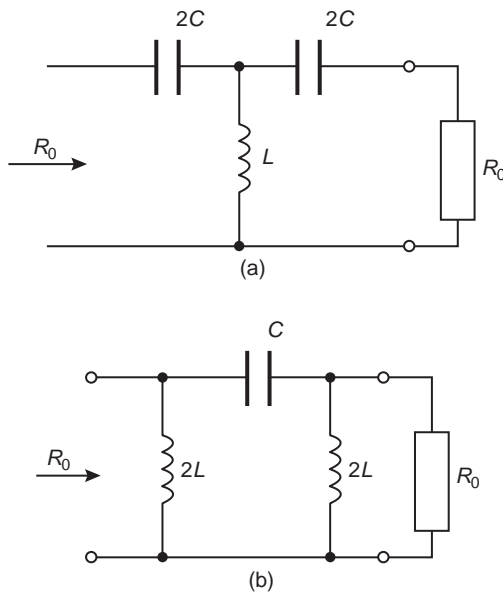
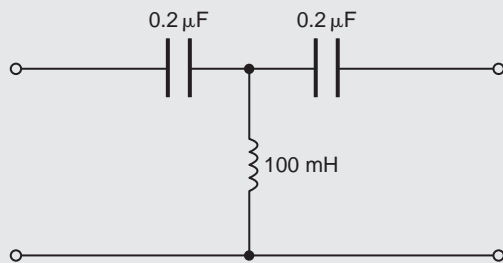
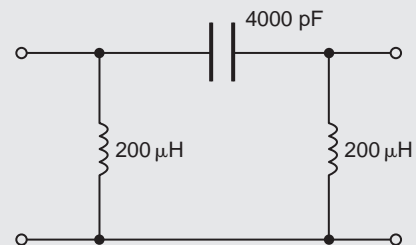
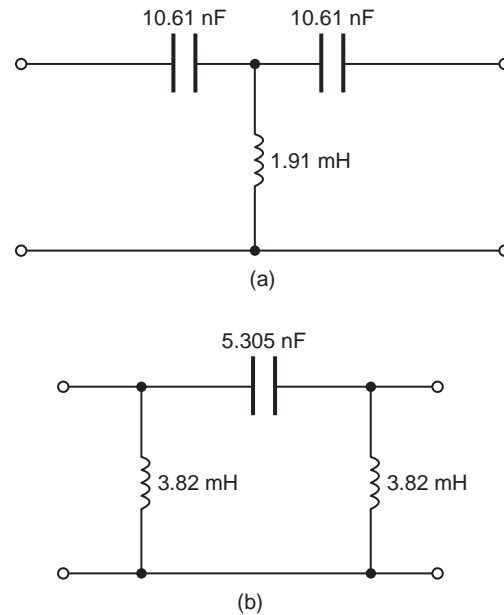

Figure 19.16
Figure 19.17
Figure 19.18
Figure 19.19
A high-pass symmetrical T-network and a high-pass symmetrical π -network are shown in Fig. 19.16. It may be shown that the cut-off frequency, f_c , for each section is the same, and is given by:
Problem 4. Determine the cut-off frequency and the nominal impedance for the high-pass T-connected section shown in Fig. 19.17.
Comparing Fig. 19.17 with the high-pass section of Fig. 19.16(a), shows that:
Problem 5. Determine the cut-off frequency and the nominal impedance for the high-pass π -connected section shown in Fig. 19.18.
Comparing Fig. 19.18 with the high-pass section of Fig. 19.16(b) shows that:
- (a) A high-pass T-section filter is shown in Fig. 19.19(a), where the series arm capacitances are each $2C$ (see Fig. 19.16(a)), i.e. $2 \times 5.305 = 10.61\ \text{nF}$
- (b) A high-pass π -section filter is shown in Fig. 19.19(b), where the shunt arm inductances are each $2L$ (see Fig. 19.6(b)), i.e. $2 \times 1.91 = 3.82\ \text{mH}$
Thus, from Fig. 19.16(a), the series arm capacitances are each $2C$,